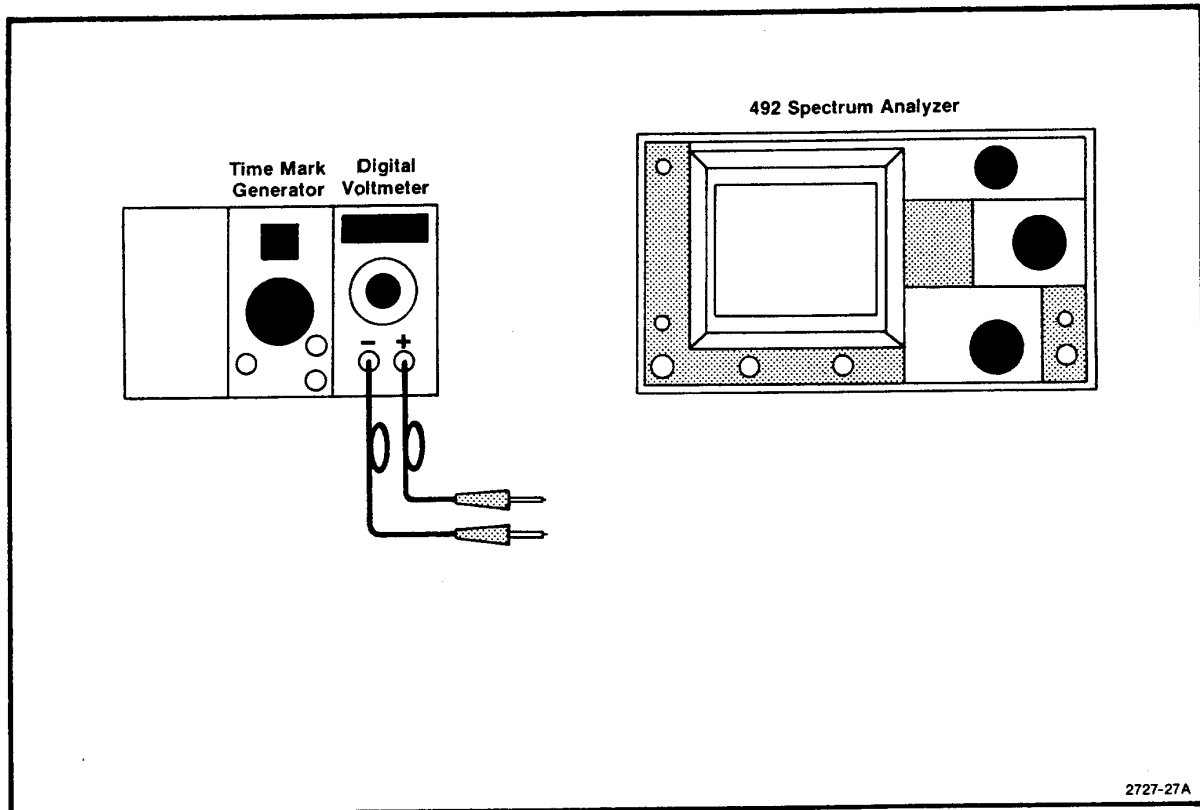

Fig. 3-30. Test equipment setup for calibrating sweep ramp for the 1st LO Driver.
- 1) Test equipment setup is shown in Fig. 3-30. Set the front-panel controls as follows: